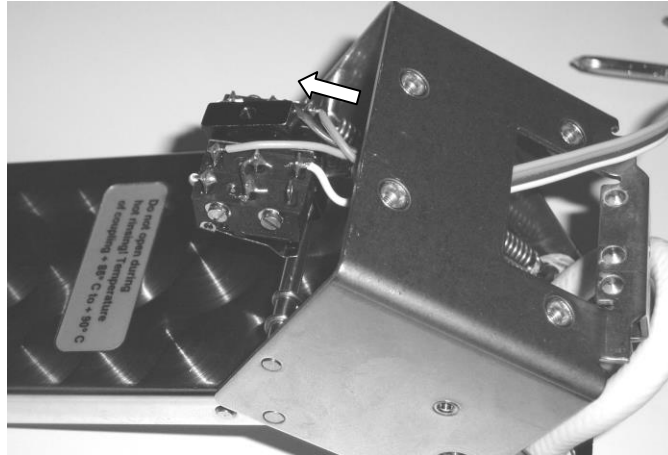

Figure 12 – Switch Assembly Removal
- 4.15 Once the mounting screw is removed, the shunt switch assembly can be removed out of the top of the shunt box structure. See Figure 12.